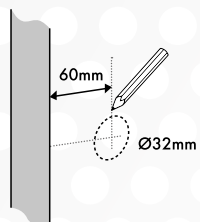

Fig. 1
1. At the required height of the door lock, using a pencil place a mark which is exactly 60mm from the edge of the door. At that point, drill a 32mm diameter hole straight through the door (Fig.1).